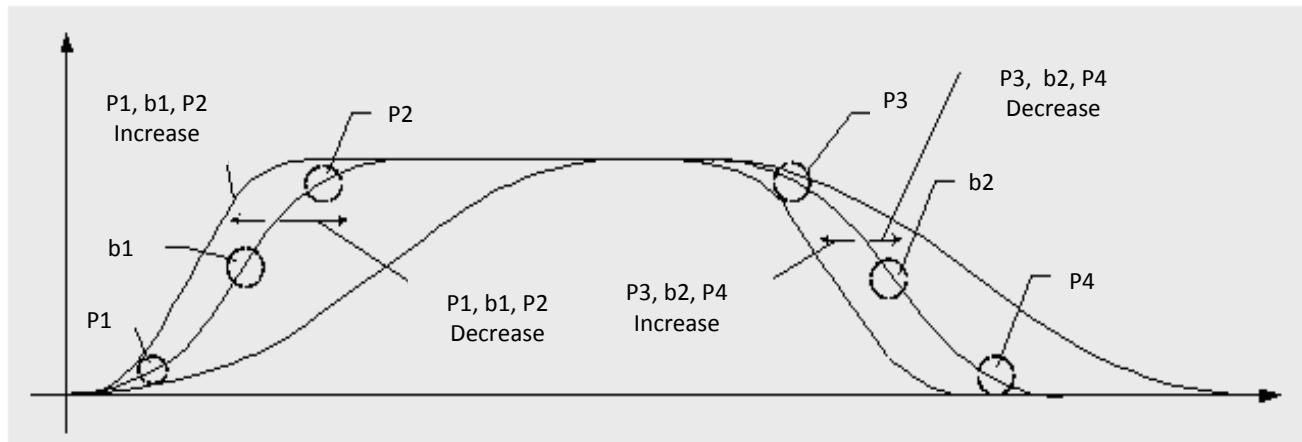

FIGURE 6.2 PARAMETERS ADJUSTMENTS FOR SPEED CURVE
- ❖ Elevator running comfort level can be set through the above 6 parameters. (Comfort level is also related to the drive control parameters.) The relationship between **b1**, **b2**, **P1**, **P2**, **P3**, **P4** and running curve are shown in Figure 6.2.